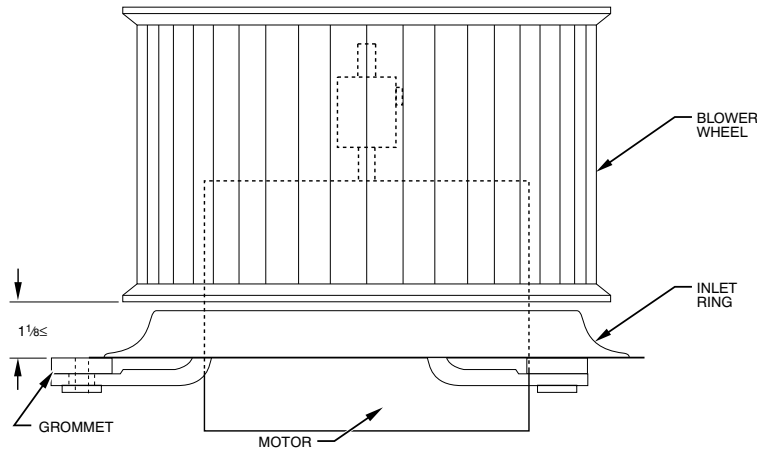

Fig. 26 – Motor, Inlet Ring, and Blower Wheel Assembly
**NOTE:** If previous shaft was not marked or if replacing previous motor, set blower wheel position by sliding blower wheel along motor shaft to 1-1/8-in. above rubber grommets (Fig. 26).